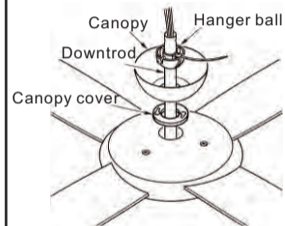

Fig.12
Step 6: Route wires through canopy cover, canopy and hanger ball. (fig.12)